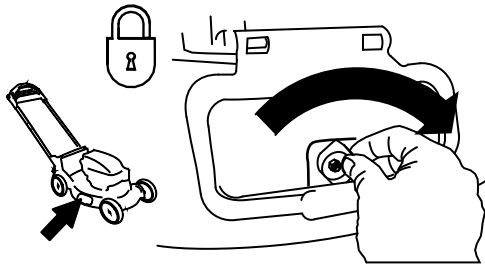

Figure 27
**Important:** Lock the side-discharge deflector after you close it (Figure 27).